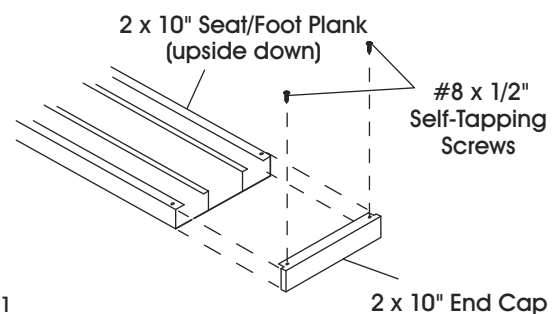

Figure 1
1. Attach 2 x 10" poly end caps to seat planks and 2 x 10" metal end caps to foot planks. (See Figure 1) Row 4 and 5 foot planks attach to 2 x 20" metal end caps. Attach 1 x 6" end caps to risers. (See Figure 2) Ensure the pre-drilled holes on the end caps are on the underside of the planks. Use a rubber mallet to tap into place. Attach with a drill and #2 Phillips bit using #8 x 1/2" self-tapping stainless screws. (See Figures 1-4)